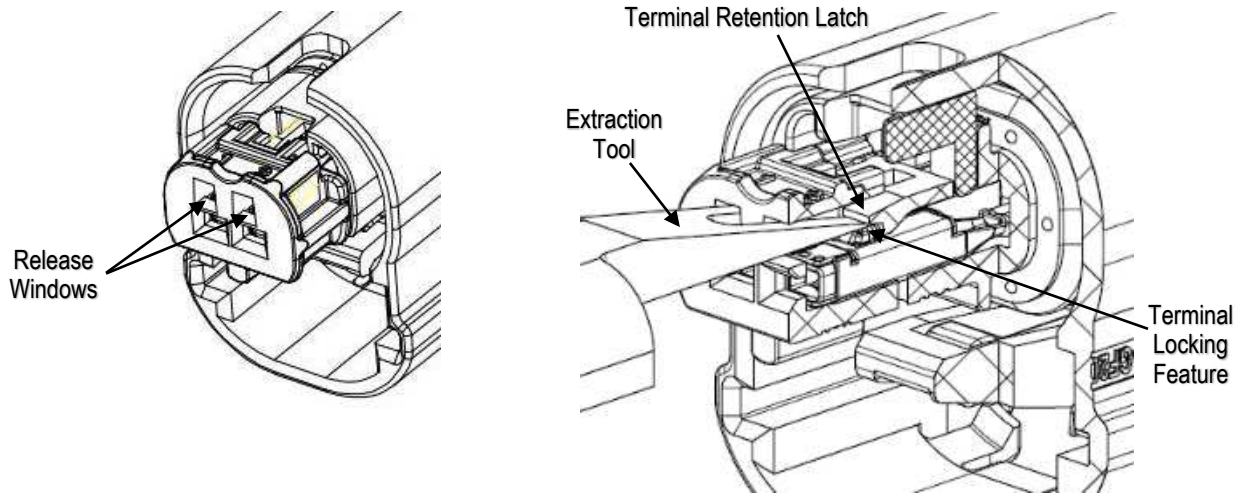

Figure 4
3. Insert the tips of Extraction Tool (PN 2844610-1) into the release windows (see Figure 4) and direct them between the Terminal Locking Features and the Terminal Retention Latches. **The flat side of the extraction tool faces the terminal** (see Figure 5 DETAIL).